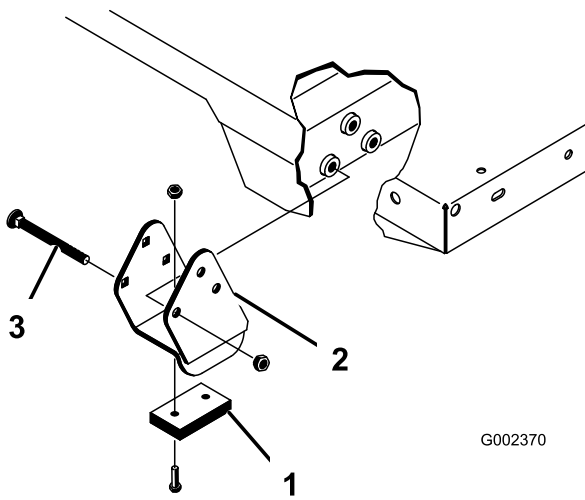

Figure 23
Ensure that the spacer brackets and wear blocks (Figure 23) are installed with the carriage-bolt heads positioned inside the machine.
2. Carefully set the bed onto the machine frame, aligning the rear bed pivot-plate holes with the holes in the rear frame channel, and install the 2 clevis pins and lynch pins (Figure 23).
4. Insert the clevis pin from outside of the bed with the lynch pin oriented toward the outside (Figure 23).